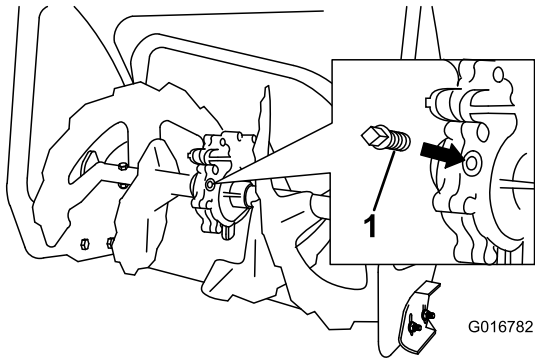

Figure 49
- 2. Clean the area around the pipe plug (Figure 49).